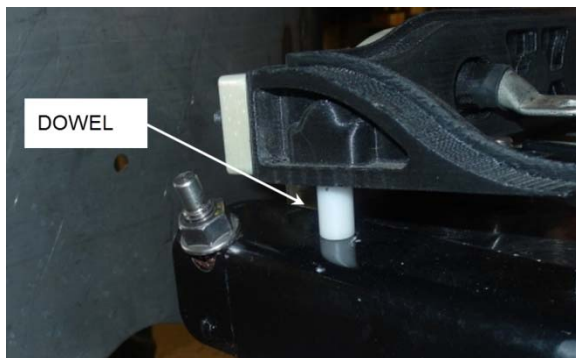

FIGURE 40: DOWEL ON ANGLE
5. Align the dowels on the angles with the holes on the cable guides (FIGURE 40).